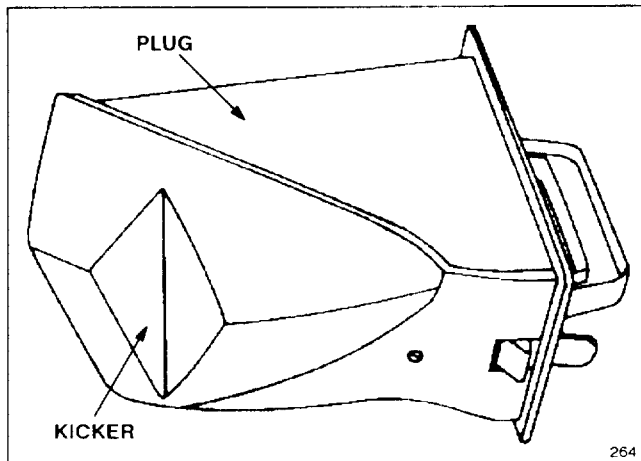

Figure 8
- A plug which locks into the mower's discharge tunnel (a fifth kicker is on the plug) (Fig. 8)
It is possible to mow without using the plug by closing the discharge tunnel door. However, your lawn appearance will be much more satisfactory if you use the plug as it has an additional kicker (Fig. 8) that helps drive the clippings down into the grass.